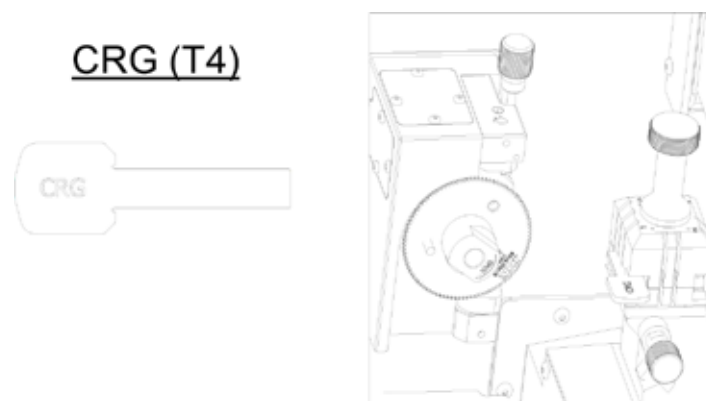
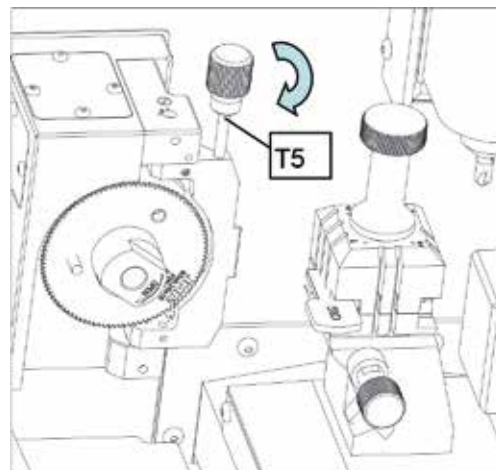

FIG. 21
FIG. 22
- 1) Place the CRG (T4) in the jaw MP1 on side 1.(Fig.21)
- 1) Place the CRG (T4) in the jaw MP1 on side 1.(Fig.21) (Fig. 22)